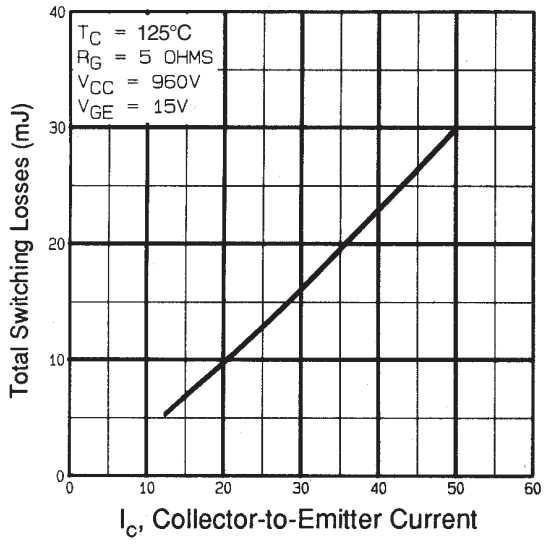

Fig. 11 - Typical Switching Losses vs. Collector-to-Emitter Current
| $t_{d(on)}$ | Turn-On Delay Time | — | 33 | — | ns | $T_J = 125^\circ\text{C}$ $I_C = 25A, V_{CC} = 400V$ $V_{GE} = 15V, R_G = 2.35\Omega$ Energy losses include "tail" ⑤ See Fig. 11, 14 |